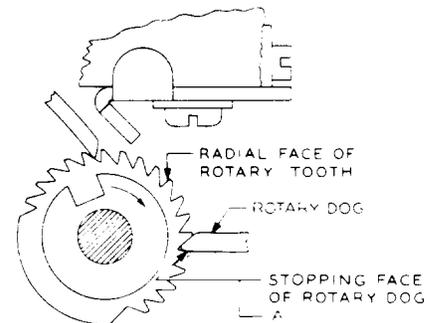

Fig. 1—Rotary Dog Alignment
**3.04 Rotary Dog Alignment:** The stopping face of the rotary dog (Fig. 1, location A) shall en-